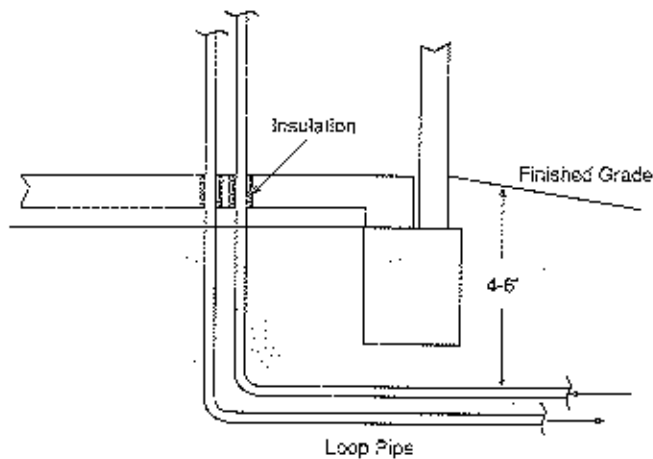

Figure 2
*New Construction:* When possible, position the pipe in the proper location prior to pouring the slab. To prevent wear as the pipe expands and contracts, protect the pipe with a layer of insulation as shown in Figure 2. When the slab is poured prior to installation, create a chase through the slab for the service lines with 4" PVC street elbows and sleeves. Refer to Section 4 of the IGSHPA manual for details.